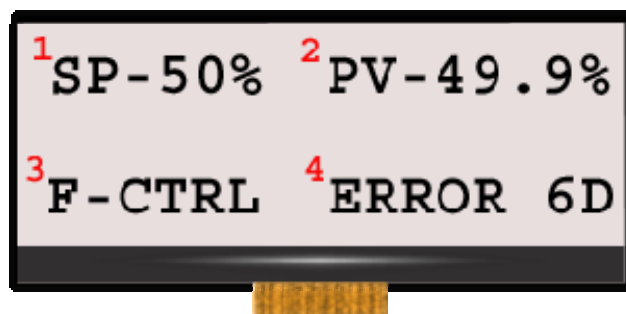

Figure 20
13.2.1. The calibration display indicates the following parameters as shown in Figure 20.